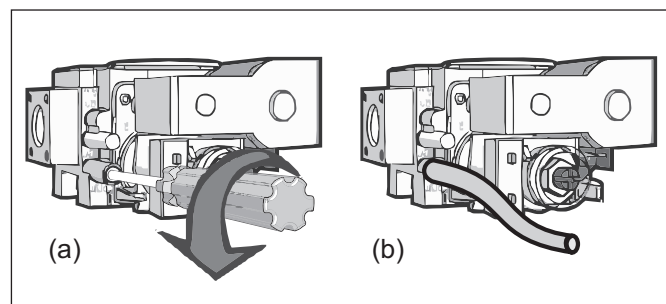

FIG 31
2. The pressure point is closed with a captive screw. Turn screw 6 revolutions anticlockwise to open the pressure point as indicated on **FIG 31 (a)** and place manometer tube over the test point as per **FIG 31 (b)**.